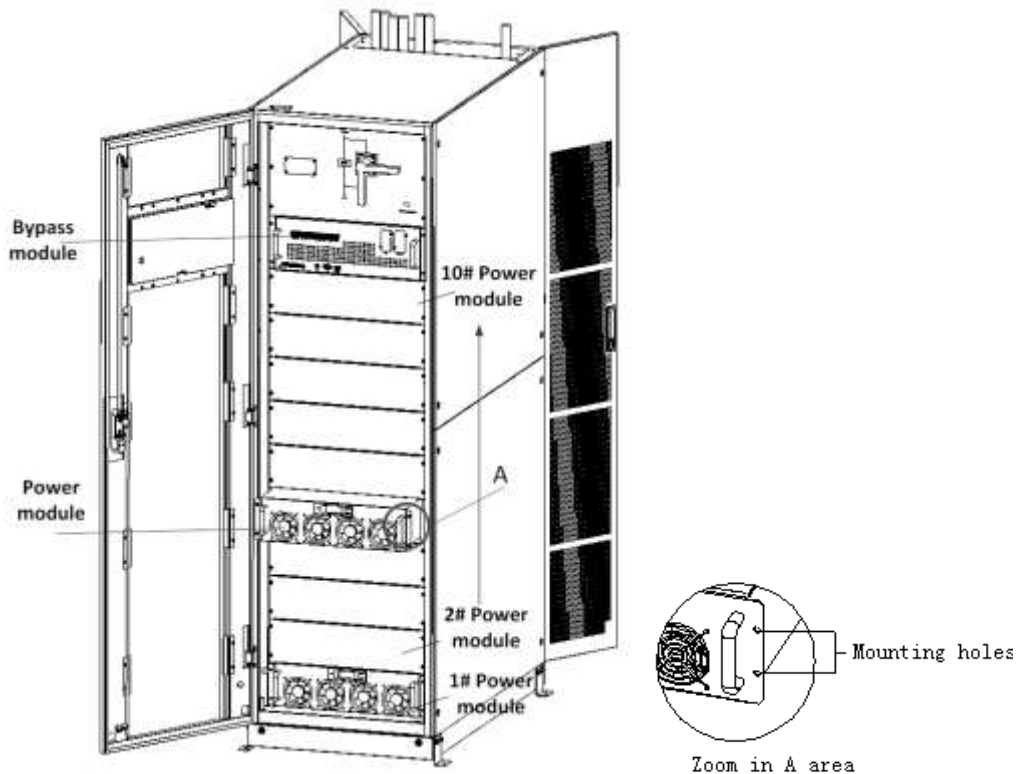

Fig.2-9 Installing power module
4. Fix the module to the cabinet through the mounting holes on two sides of the front plate of the module (See Fig.2-9 at right).